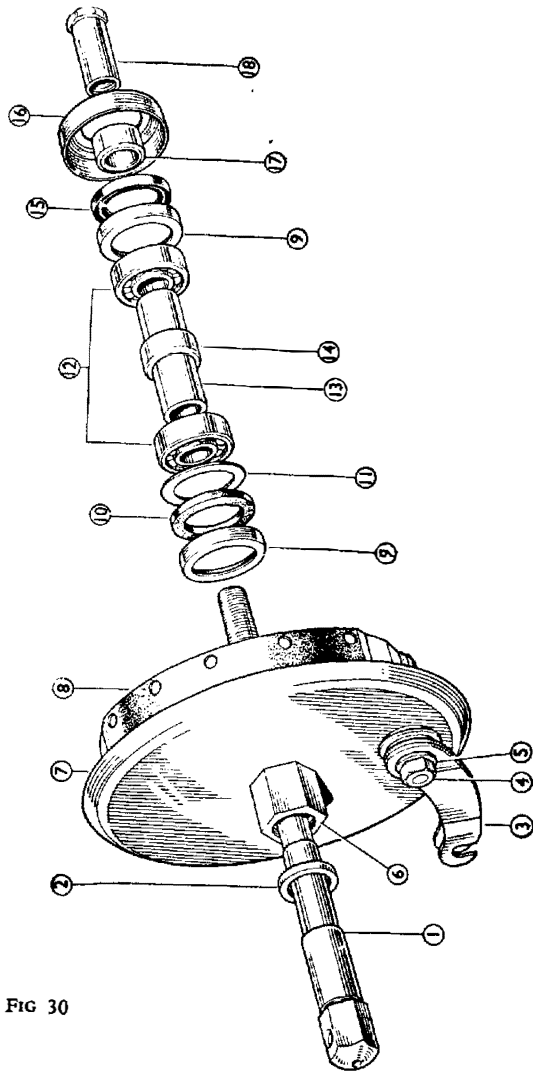

FIG 30
**Front wheel (1960-62 Models).** (Fig. 30). It will be seen that the outside diameter of the spacing tube (13) is nearly the same as the inner member of the bearing (12). In consequence the projection into the spacing tube is small.
Key to FIG 30